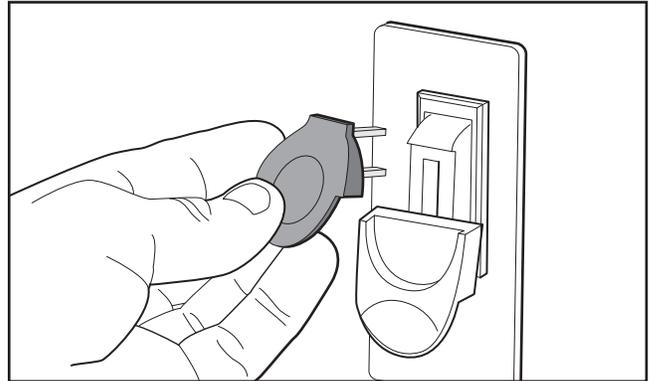

Figure 16. Removing switch key from paddle switch.
4. Remove switch disabling key, as shown in **Figure 16**.